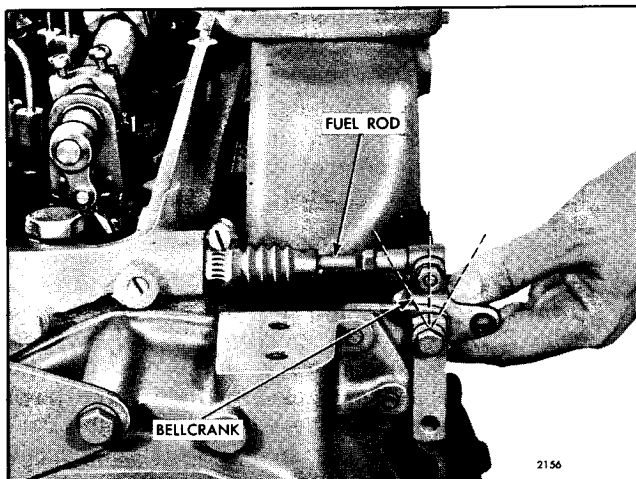

Fig. 3 - Adjusting Fuel Rod Length
1. Check travel of bell crank as shown in Fig. 3. The vertical arm of the bell crank should move an equal distance on either side of center when moving the fuel injector racks from FULL FUEL to NO FUEL positions. The bell crank is positioned by loosening the fuel rod lock nut, then after removing fuel rod ball joint from bell crank, turn ball joint assembly on fuel rod until the fuel rod is the correct length to give the bell crank the correct travel. Replace ball joint assembly on bell crank and tighten lock nuts securely to retain adjustment.